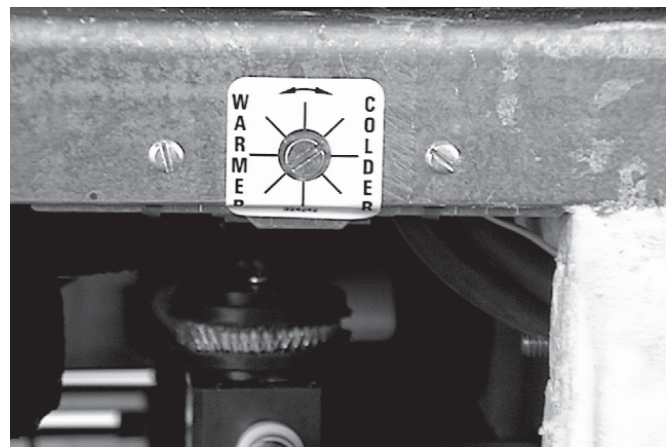

Figure 30. Temperature Control Cab
- B. Use a small screwdriver to adjust the temperature control. Turn counterclockwise for a warmer temperature and clockwise for a colder temperature. It will take about an hour for the cab temperature to change. Figure 30.